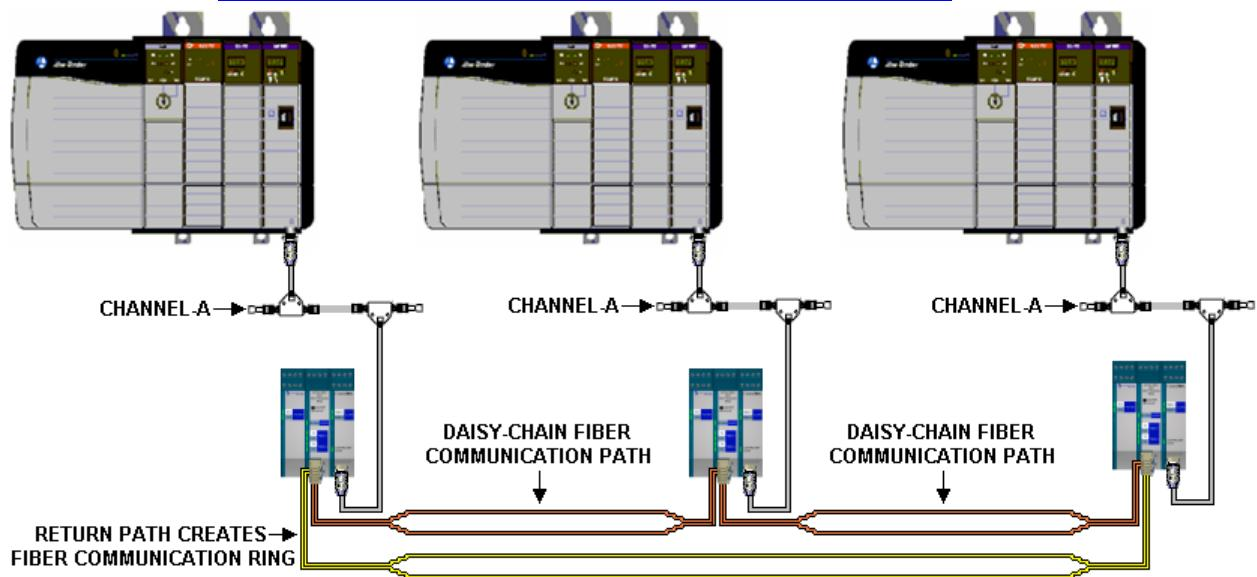

Figure 1-1: Self-Healing Ring (SHR)
| Figure 1-1: Self-Healing Ring (SHR) | 2 |
The EOTec 2000 Self-Healing Ring Modules are designed using *patent pending* technology to give reliable operation in harsh industrial environments. As shown in Figure 1-1 (single ring) and Figure 1-2 (dual ring), Ultra Electronics, NSPI provides various solutions for creating redundant communications topologies. Create the ControlNet communication ring that meets your needs; for single channel redundancy, or for dual-redundant channel configurations. You can also combine ring topologies with existing point-to-point, daisy-chain, and star topologies into one network. Both Ultra Self-Healing Ring modules support multi-mode fiber for short to medium range distances and single mode fiber for greater distances between your ControlNet devices.
In ring topologies, an additional fiber path is added (shown in Figure 1-1) to insure that communication is maintained when a fiber break occurs. In a dual channel system (see Figure 1-2), there is one fiber optic ring to support Channel-A and a second, entirely separate fiber optic ring to support Channel-B. The DSHR also provides a third “Dual-Channel Link” communication path to increase redundancy for networks that cannot afford any unscheduled down time.
| Fiber 1 Active LEDs → Fiber 2 Active LEDs → Fiber 1 Port → Fiber 2 Port → |  <p>Fiber 1 & 2 Transceivers: Both Fiber 1 and Fiber 2 are supported by Small Form-factor Pluggable (SFP) transceivers. A ring is formed by connecting fiber 1 cable in one direction while connecting fiber 2 in the other direction around the ring (Single ring see Figure 1-1; Dual ring see Figure 1-2).</p> <p>Fiber 1 & 2 Activity: Both fiber ports have local transmit (TX) and receive (RX) activity lights to provide fiber activity status information.</p> <p>For alarm information consult Troubleshooting.</p> |
| ControlNet Active LED → ControlNet Input → |  <p>ControlNet Port: The Self-Healing Ring module can be attached to any ControlNet network. This will connect directly to the coax trunk line via a ControlNet tap (Single ring see Figure 1-1; Dual ring see Figure 1-2).</p> <p>ControlNet Activity: Each Self-Healing Ring module has an LED to provide status on the ControlNet port.</p> <p>For alarm information consult Troubleshooting.</p> |